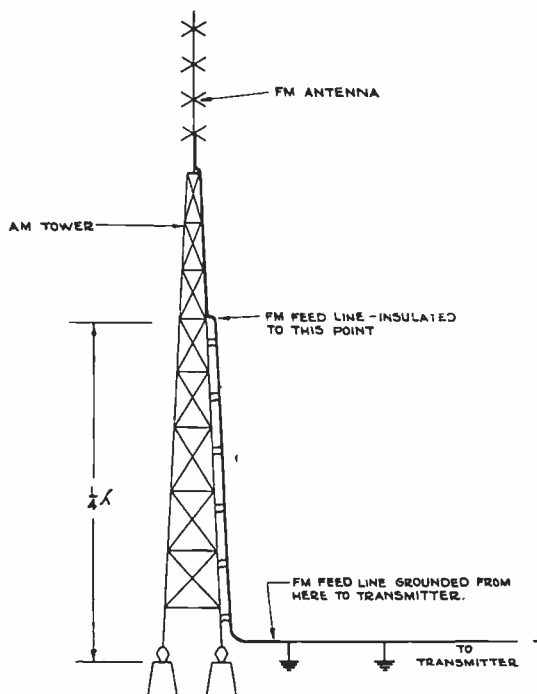

FIG. 1. Isolation provided by insulating FM line for one quarter wave up the AM tower.
The most commonly encountered AM antenna is a series-fed tower which is insulated from ground at the base. It is clear that an FM feed line cannot be connected directly to the ground on the horizontal run and to the tower on the vertical run without causing a short circuit in the base insulator. Therefore, some means of isolating the two systems at the base insulator is required. A number of suitable methods are available. Any scheme of isolation must eliminate the short circuit across the base insulator by raising the shunting impedance to a high value compared with the base impedance of the radiator itself. If the vertical run of the FM line is insulated from the tower for a quarter wave at the AM frequency (Figure 1), the impedance shunting the base insulator can be made infinite. This is true by virtue of the fact that the FM line and the tower represent two conductors of a shorted transmission line which is in shunt with the base insulator. The impedance of such a shorted line is given by:
**FIG. 1.** *New RCA audio units are designed for "plug-in" mounting. Units slide into shelf, as shown above; can be replaced or interchanged at will. Installation and maintenance are greatly simplified, flexibility of the installation increased. Connections are made through ten-prong plugs at rear. Amplifier chassis locks in place by means of easy-action levers (in operator's hands, above).*
RCA has developed a new line of amplifiers to provide the utmost in flexibility, accessibility, and ease of installation. These have been appropriately labeled "plug-in" amplifiers. (Figures 1 and 2.)
The superiority of plug-in amplifiers over those with conventional screw or solder-type terminals is readily apparent. A complete amplifier may be removed from the rack with no greater effort than is required to take a tube out of a socket. It is no longer necessary to crawl into the tight quarters behind the racks and unsolder or unscrew innumerable wires for servicing, inspection, or system changes. By pulling a lever near the front of the amplifier (Figure 1) the unit is disengaged from its socket, thus automatically disconnecting it from the supply voltage! This means that all amplifiers not actually in use may be handled without the danger of blowing the fuse or taking risks with the power supply circuits.